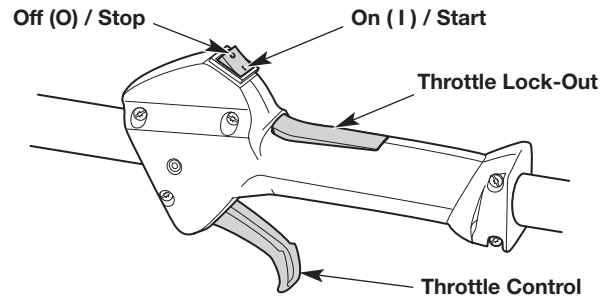
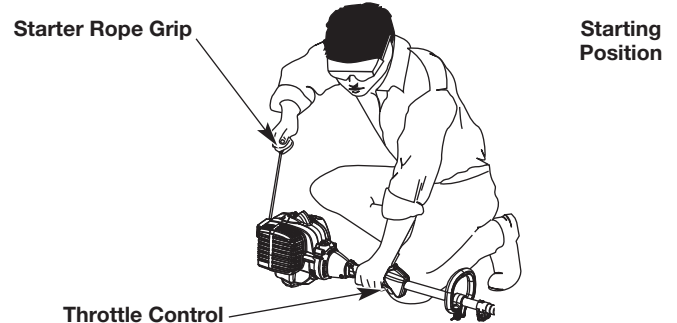

Fig. 12
Fig. 14
WARNING: Avoid accidentally starting the unit. To avoid serious injury, the operator and the unit must be in a stable position when pulling the starter rope (Fig. 14).
NOTE: There is no need to turn the unit on. The On/Off switch is in the ON (1) position at all times (Fig. 12).
5. Crouch in the starting position (Fig. 14).
6. Press the throttle lock-out and squeeze the throttle control (Fig. 12). Pull the starter rope with a controlled and steady motion **5 times** (Fig. 14).
2. Press and hold the On/Off switch in the OFF (O) position until the engine comes to a complete stop (Fig. 12).